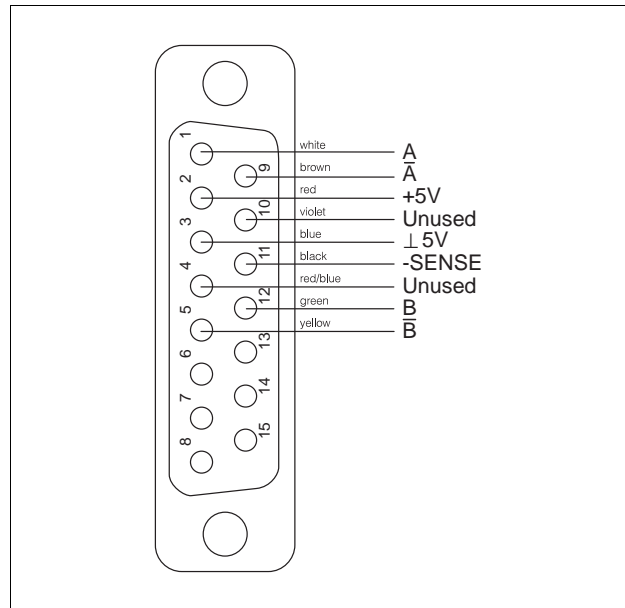

Fig. 2-6 Shaft encoder connection – unit side
1. Solder the litz wires to the connector according to fig. 2-6.